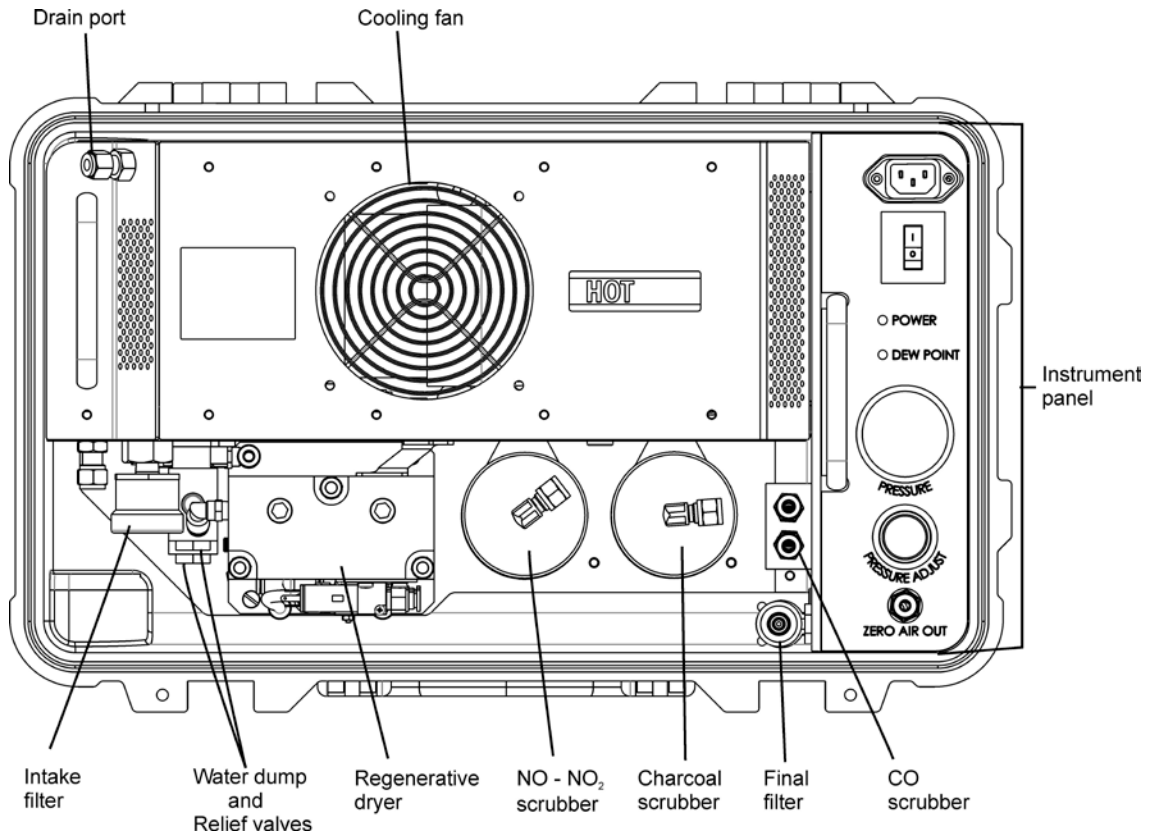
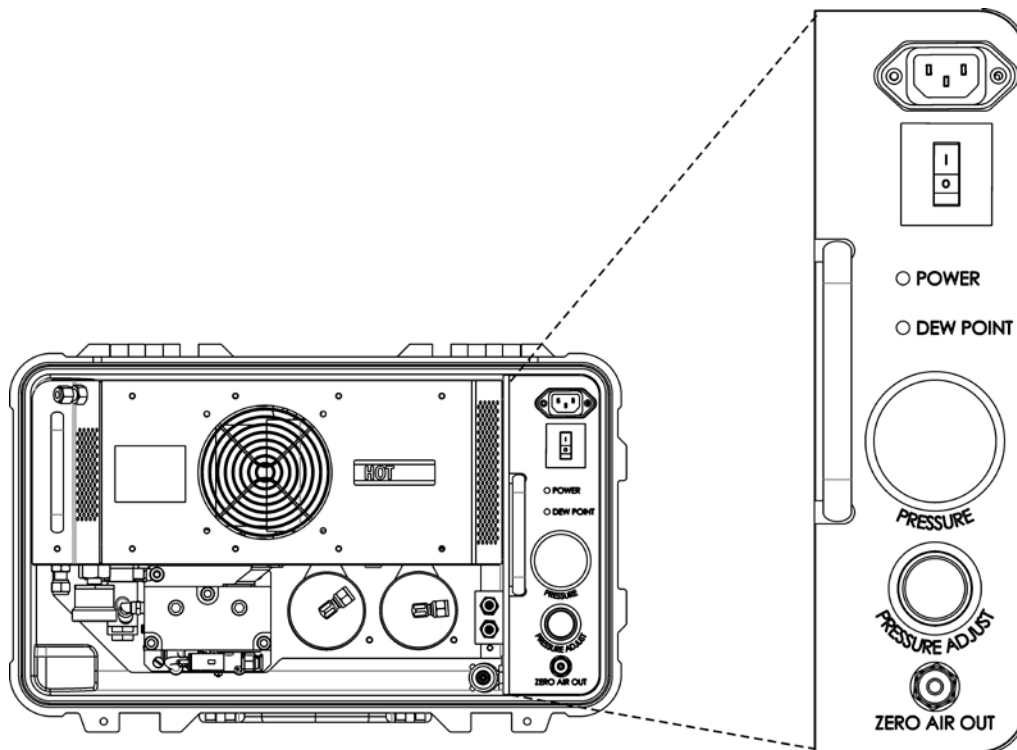

Figure 4-2: Plan View
Figure 4-3: Instrument Panel
This section provides instructions on the proper installation and power up of the 751H. Refer to Figure 4-2 for the instrument layout and Table 2-1 for the specifications.
**DRAIN** (1/4” swage-type bulkhead union) - Connect 1/4” diameter tubing to the water-out fitting (refer to Figure 4-2) to avoid the occasional spurts of water ejecting from the fitting. Ensure the tubing is long enough that the water ejects outside the instrument.
Figure 4-2 and Figure 4-3 are illustrations of the 751H plan view and a close-up of its instrument panel, respectively.